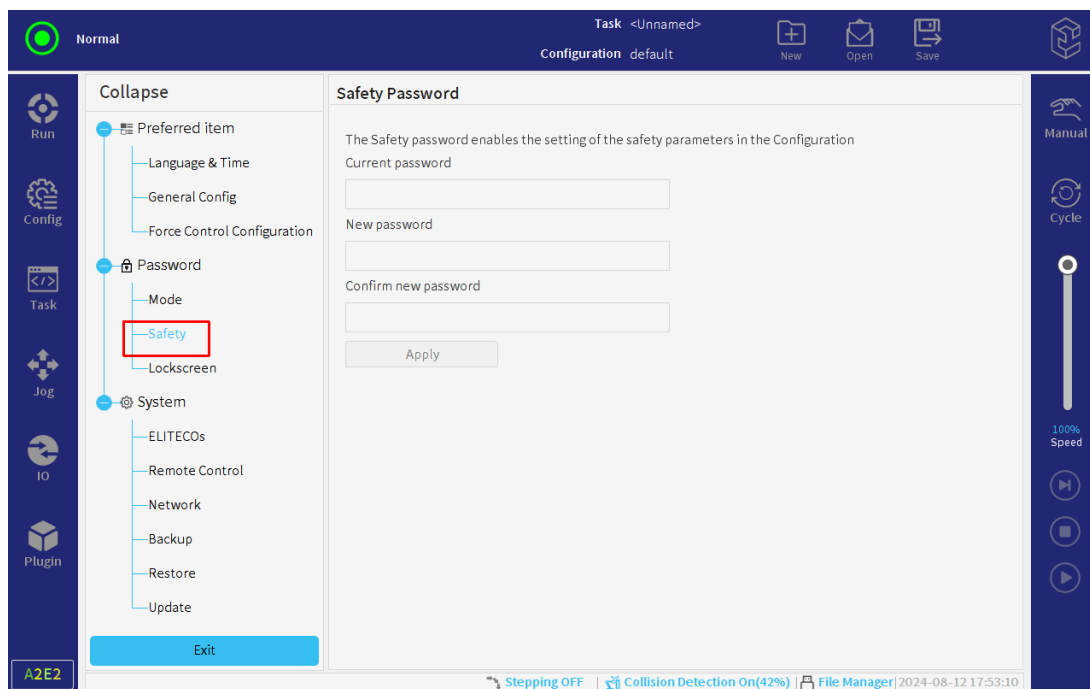

Figure 3-17 : Safety password
2. Select "Settings > Password > Safety" to enter the "Safety" page, as shown in **Figure 3-17** .